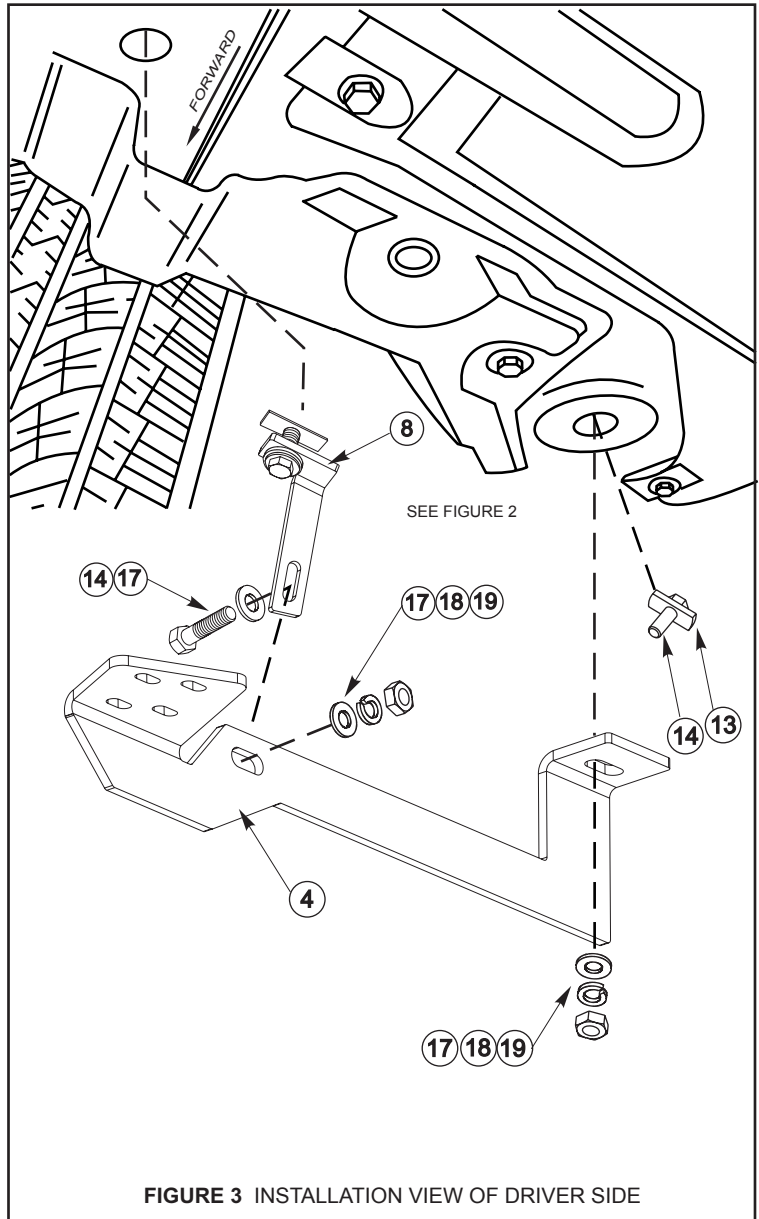

FIGURE 3 INSTALLATION VIEW OF DRIVER SIDE
- STEP 7. Attach front bracket to bolt plate and then to support brace using 3/8" fasteners. **SEE FIGURE 3.**